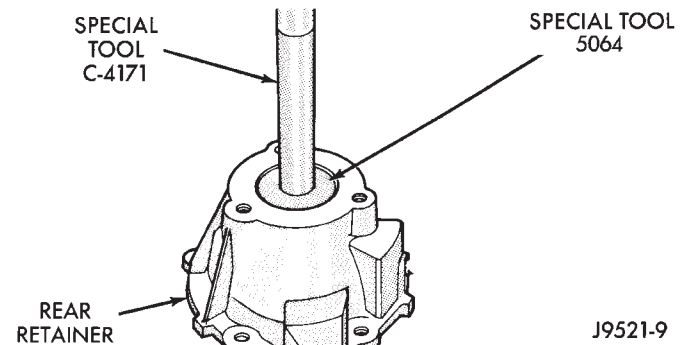

Fig. 68 Installing Mainshaft Rear Bearing In Rear Retainer
(10) Install and tighten front case-to-rear case attaching bolts to 27-34 N·m (20-25 ft. lbs.) torque. **Be sure to install a washer under each bolt used at case dowel locations.**
(11) Install output bearing in rear retainer. Tap old bearing out of retainer with hammer and brass drift. Then install new bearing with Tool Handle C-4171 and Installer 5064 (Fig. 68).